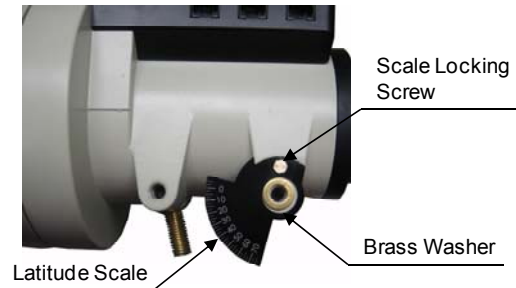

Figure 18
5. Remove the Latitude Scale, which is secured onto the mount with a Scale Fixing Screw, as shown in **Figure 18**. Do not break the plastic scale. These parts are needed when converting the mount back to EQ mode.